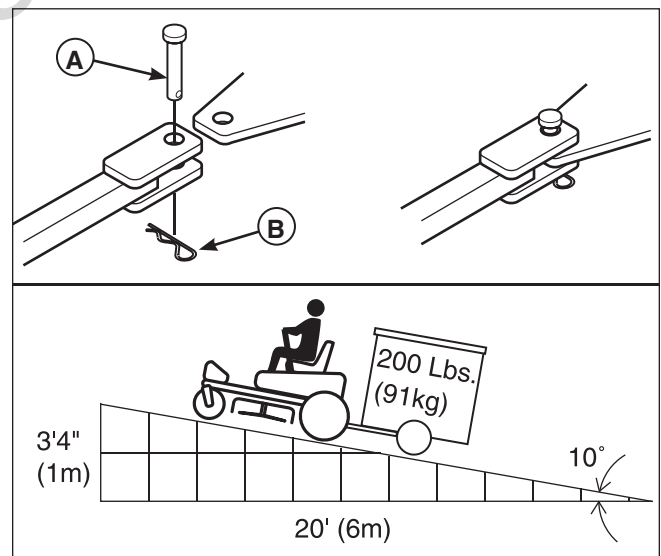

Figure 13. Trailer Weight Recommendations
The maximum weight of a towed trailer should be less than 200 lbs (91kg). Secure the trailer with an appropriately sized clevis pin (A, Figure 13) and clip (B).